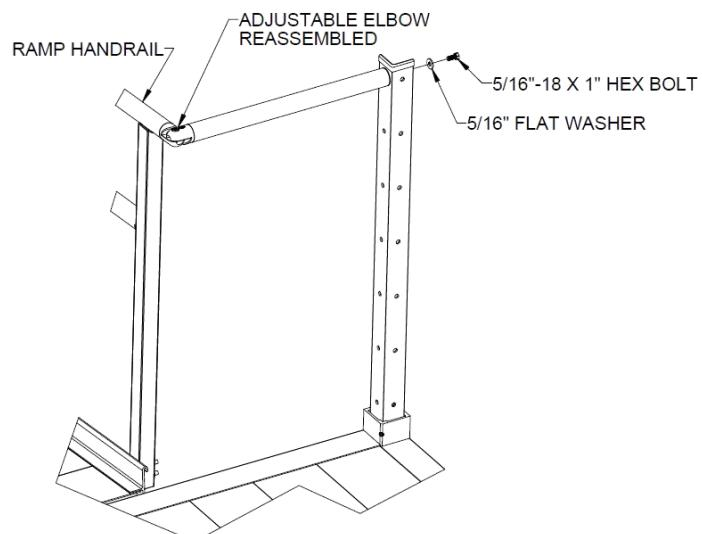

FIG. 5.5
- 5.4.8. Install a 5/16"-18 x 1" hex bolt through a 5/16" flat washer and the upper hole in the angle post into the 5/16"-18 round threaded insert (FIG. 5.5), then tighten all fasteners securely.